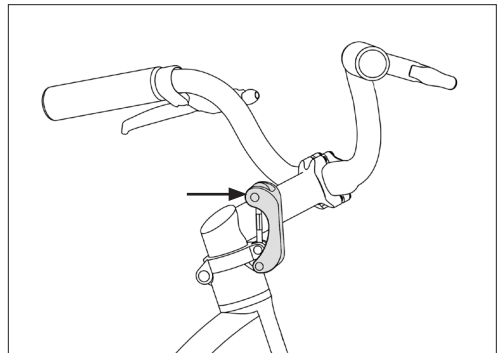

Fig. 35: Open the handlebar stem quick release.
9. Open the quick release lever on the handlebar stem (Fig. 35).